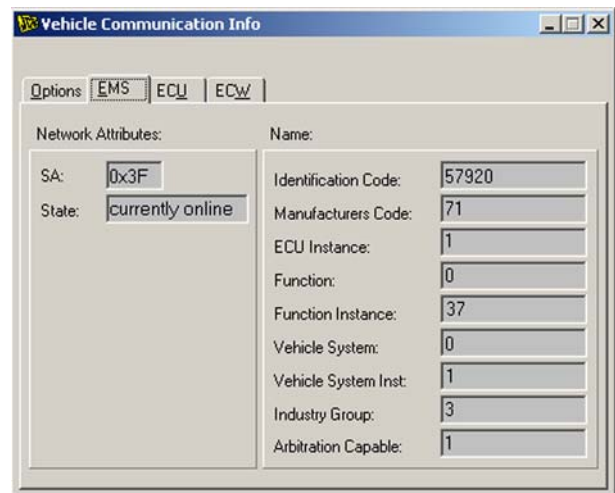

Fig 36.
- **Controller Status:** to show that the ECU is online. When the ECU is online the machine codes are displayed. This diagram shows the actual settings read from a test machine. → Fig 36. (M5-24)